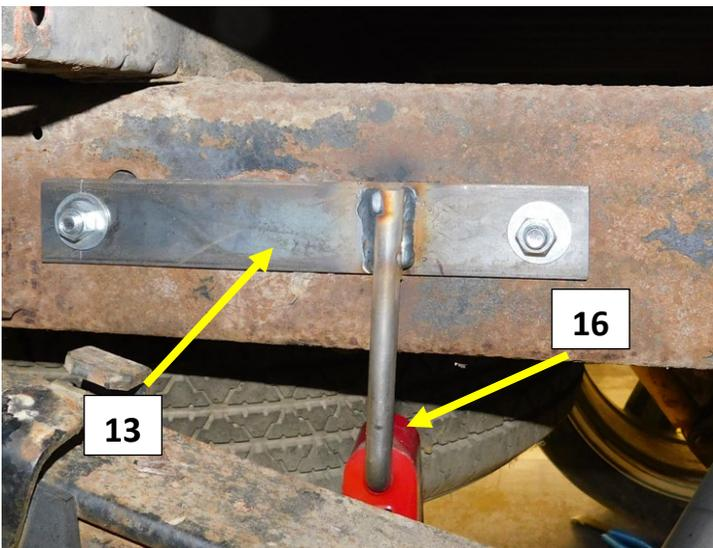
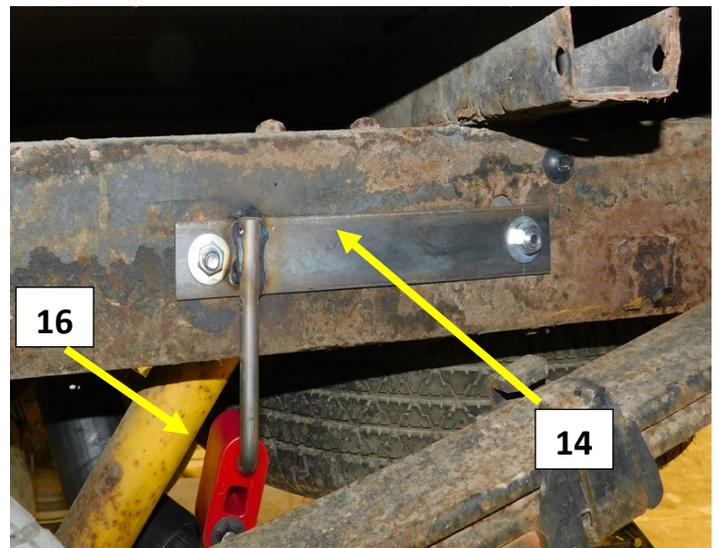

Figure.6
Figure.7
5. Install the supplied tail pipe frame hangers 541HA **(13)** Right and 542HA **(14)** Left on to the frame rails just behind the rear tire using the existing holes in the frame, Supplied 3/8 hardware and the square backing plates on the inside of the frame. Install the supplied red rubber Isolators **(16)**. **Fig.6, Fig.7**